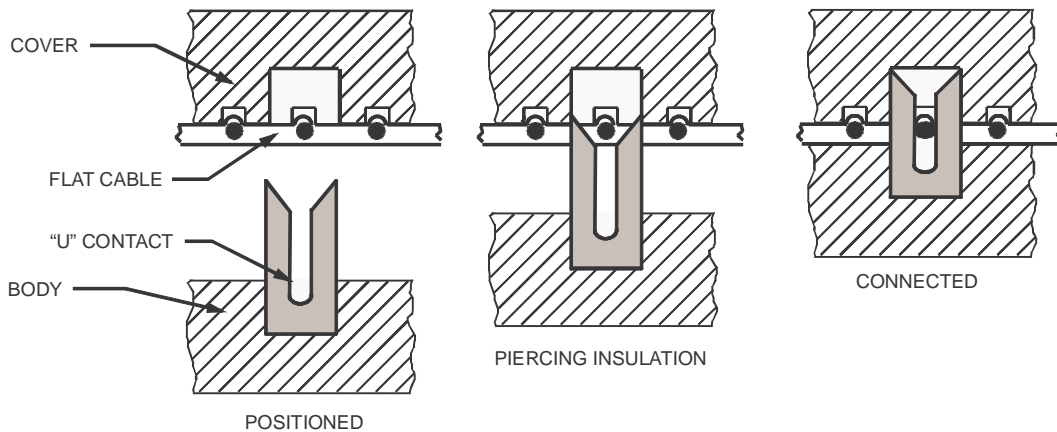

Figure 3 Insulation Displacement Connectors
- a. Insulation displacement connectors. This connector uses the principle of the “U” contact. Figure 3 shows the various steps of the connection. This procedure may be inverted, having the “U” contact body above the flat cable prior to piercing the insulation. The connectors are designed to accept cable with 28 AWG or 30 AWG. The specified centerline spacing is .050 inch ($\pm .005$ inch [$0.127\text{cm} \pm 0.0127$ cm]).